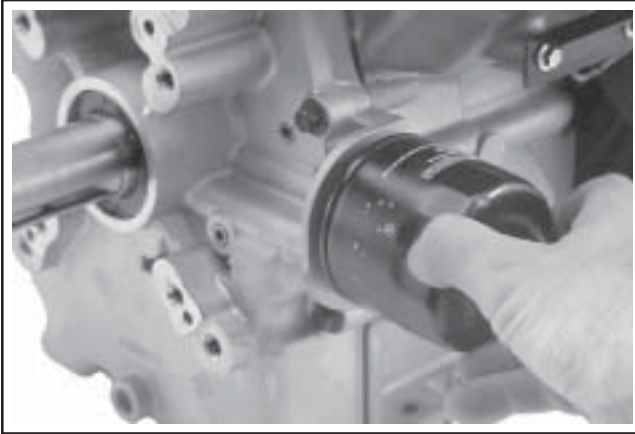

Figure 11-121. Installing Oil Filter.
3. Install the new oil filter to the filter adapter. Turn the oil filter clockwise until the rubber gasket contacts the surface, then tighten the filter an additional 3/4-1 turn. See Figure 11-121.